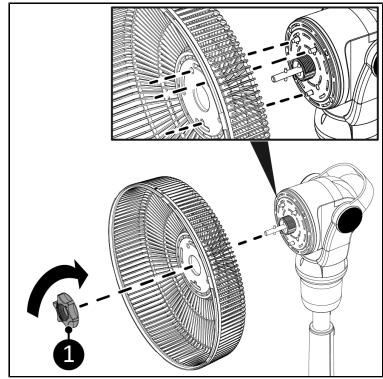

Figure 25.
8. Place the grille nut (Figure 25, pos. 1) and turn it clockwise to secure the rear grille.